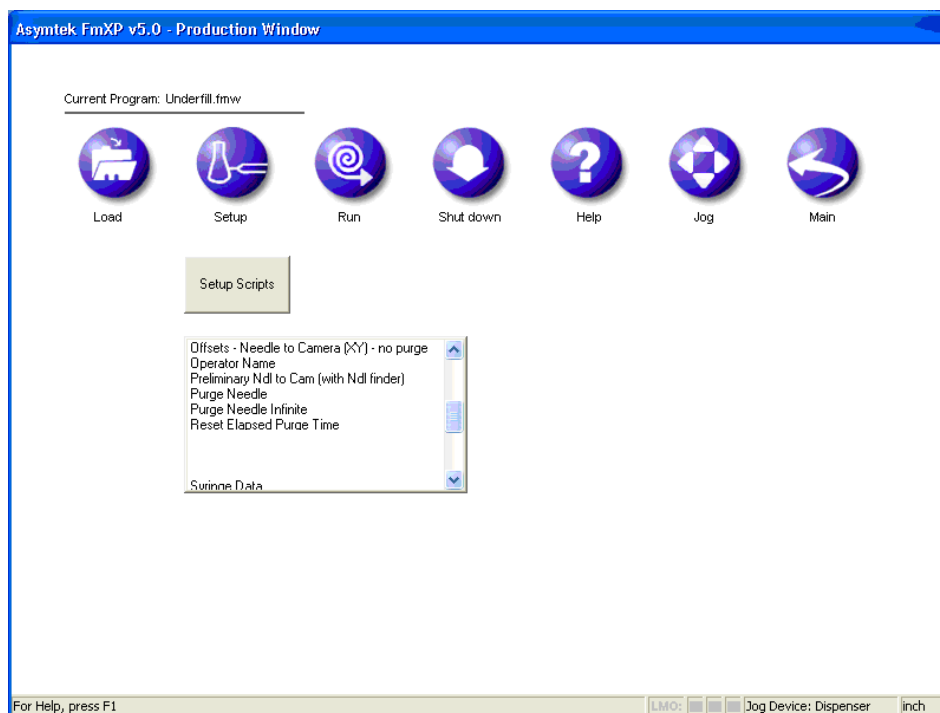

Figure 3-14 Fluidmove Production Window
2. In the Production Window (Figure 3-14), click on **Setup** and in the list box select **Setup Heater 1**.